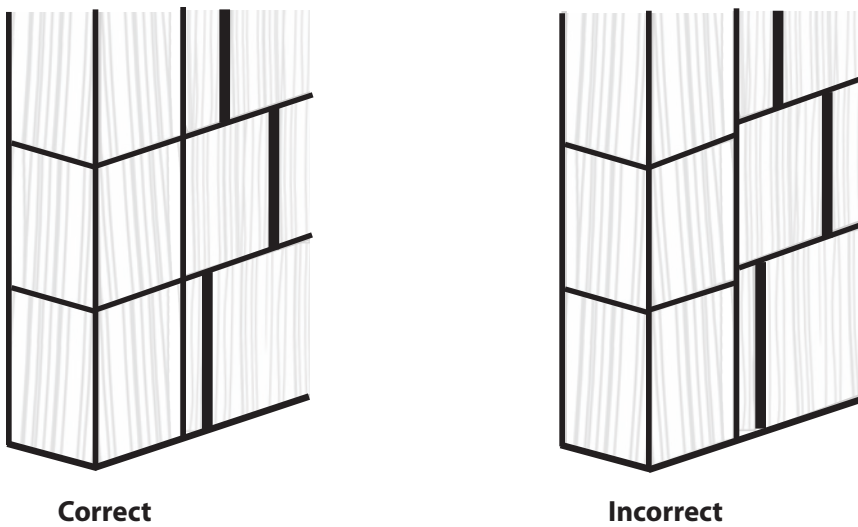

FIGURE 9
- Use silicone or vinyl compatible sealant to adhere J-Channel to corner. This will ensure the corners do not misalign with the panels (**FIG 9**).